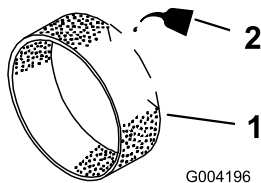

Figure 19
5. Put 1 or 2 ounces of engine oil on the pre-filter (Figure 19).